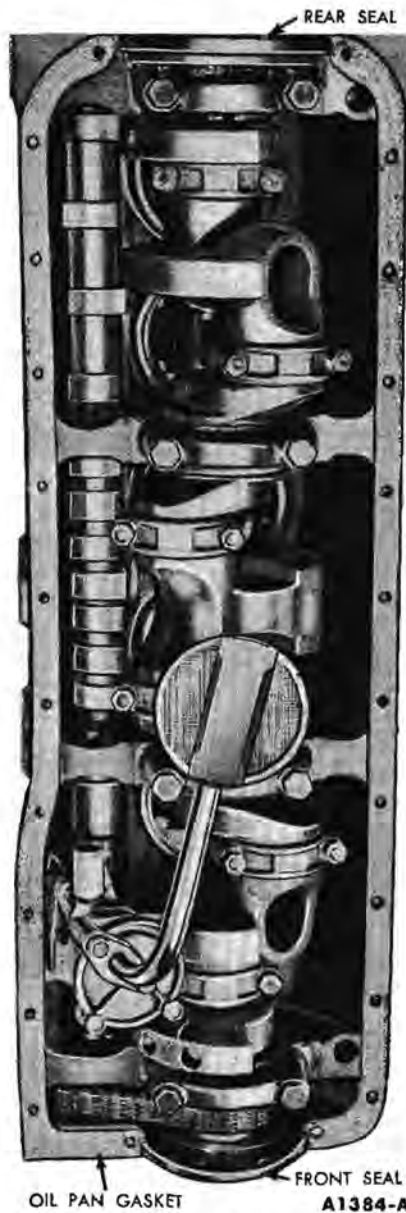

FIG. 48—170 Six Oil Pan Gaskets and Seals Installed
2. Clean the gasket surfaces of the block and oil pan. The oil pan has a two-piece gasket. Coat the block surface and the oil pan gasket surface with oil-resistant sealer. Position the oil pan gaskets on the cylinder block (Fig. 48 or 49).
3. Position the oil pan front seal on the cylinder front cover (Fig. 48 or 49). Be sure the tabs on the seal are over the oil pan gasket.
4. Position the oil pan rear seal on the rear main bearing cap (Fig. 48 or 49). Be sure the tabs on the seal are over the oil pan gasket.